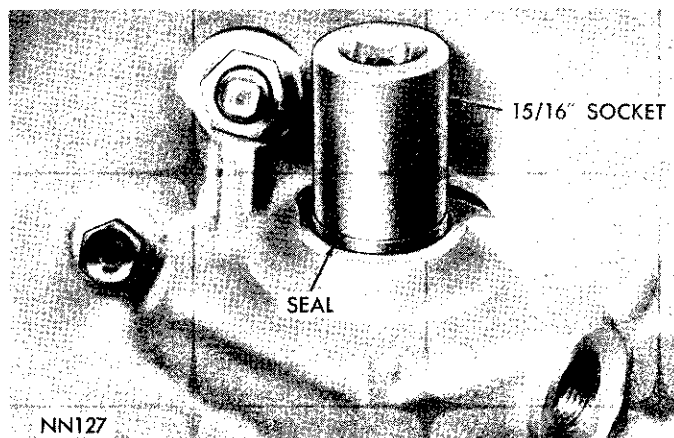

Fig. 29—Installing Valve Body Manual Lever Shaft Oil Seal
(8) Withdraw accumulator piston from transmission case. Inspect piston for scoring, and rings for wear or breakage. Replace as required.
(9) If valve body manual lever shaft seal requires replacement, drive it out of the case with a punch.
(10) Drive a new seal into the case with a 15/16 inch socket and hammer (Fig. 29). **Servicing the valve body assembly is outlined under "Recondition—Sub-Assemblies."**